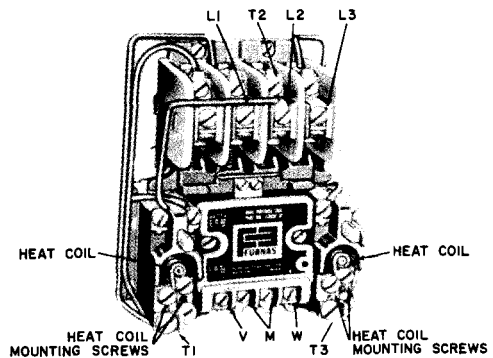

Figure 3. Magnetic Motor Starter
4. HEAT COIL SELECTION (See figure 3)